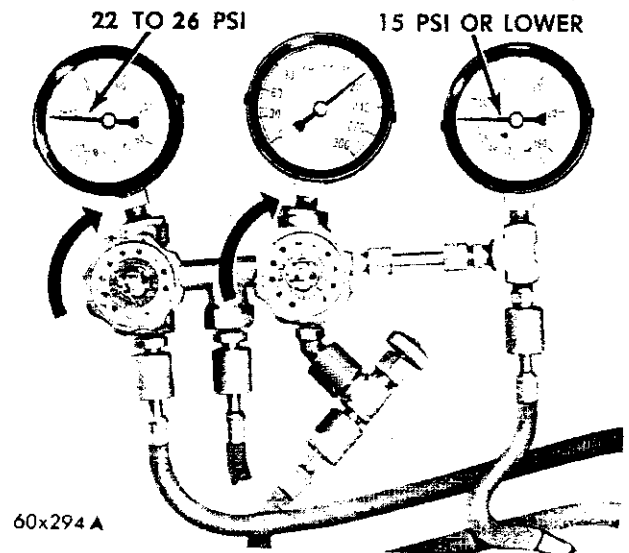

Fig. 24—EPR Valve Test Pressures
(3) When fluctuation at the compressor inlet gauge stops and the pressure registered drops steadily, the "EPR" valve is maintaining minimum suction line pressure. Allow the pressure registered at the compressor inlet gauge to drop to 15 psi or lower, then read the evaporator suction gauge. (Refer to Fig. 24.)
(4) The suction gauge pressure should be 22 to 26 psi. This indicates that the suction pressure maintained by the "EPR" valve is correct. However, if engine speed is increased to approximately 2000 rpm in order to pull the inlet pressure down to 15 psi, this also increases the suction pressure 24 to 28 psi. Again, determine the pressure at which the valve is fully open.
(5) Turn the blower on high and push the "FRESH COOL" button to increase the heat load on the evaporator. This will increase suction pressure, causing the "EPR" valve to open fully.
(6) Watch both the evaporator suction and the compressor inlet pressure gauge. The pressure registered at the compressor inlet gauge will increase quite rapidly. Both suction gauges should again stabilize at a pressure of 26 psi or slightly higher within a few minutes.